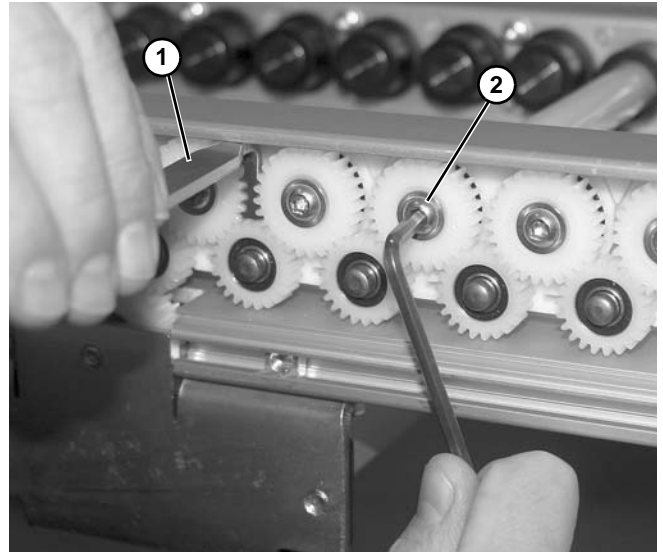

Figure 15
2. Install sprocket removal tool, part number 400571 (Figure 15, item 1) between gears.
3. Remove screw (Figure 15, item 2) holding gear onto roller shaft.